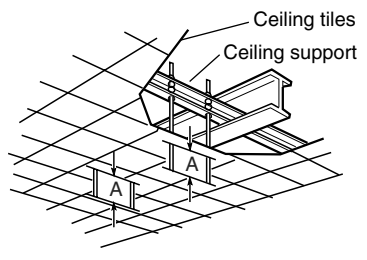

Fig. 3-39
- b) Use existing ceiling supports or construct a suitable support (Fig. 3-39).